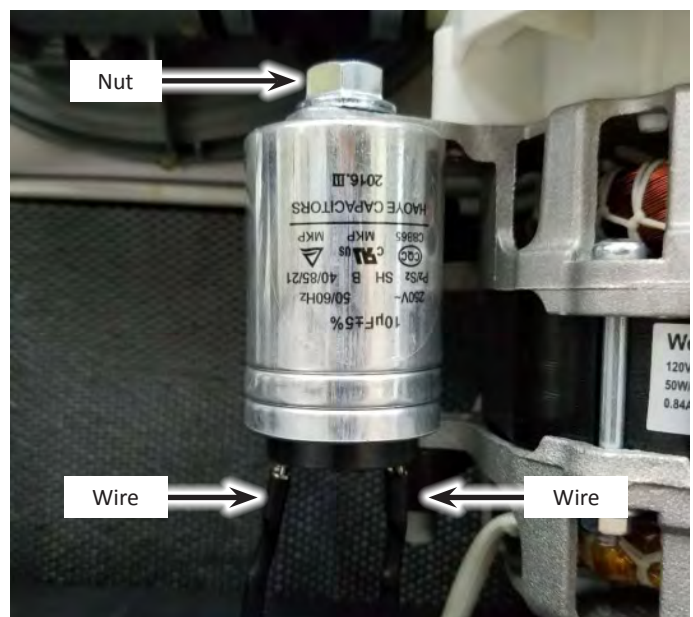

Figure 3
2. The capacitor is connected to the pump with 2 wires and held in place with a nut. Disconnect the wires and the nut (see Figure 3).